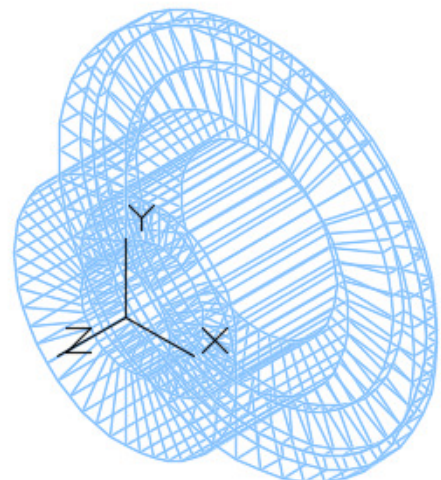

Figure Step 9
Step 9 Set layer Solid 3 as the current layer. Enter the REVOLVE command, as shown below. After completing the command, the model should appear as shown in the figure. (Figure Step 9)